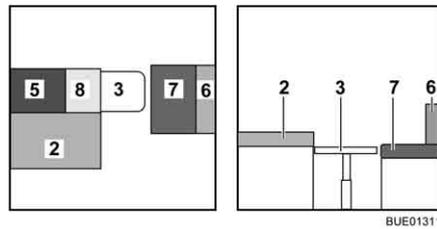

Fig. 131 During conversion
- Place the additional cushion (Fig. 131,8) on the table.
- Place the seat cushion (Fig. 131,7) in the centre.
- Place the back cushion (Fig. 131,6) between the seat cushion and the wall.